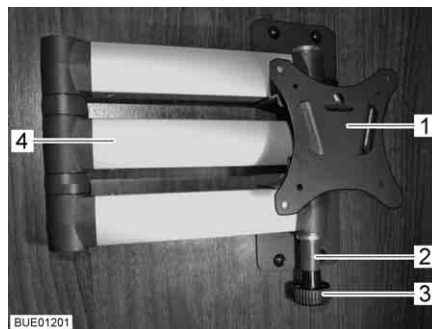

Fig. 71 Holder with jointed arm
- Pull the release knob (Fig. 71,3). The jointed arm (Fig. 71,4) is unlocked.
- Turn the flat screen back into the original position until the holder (Fig. 71,1) engages in the lock (Fig. 71,2).